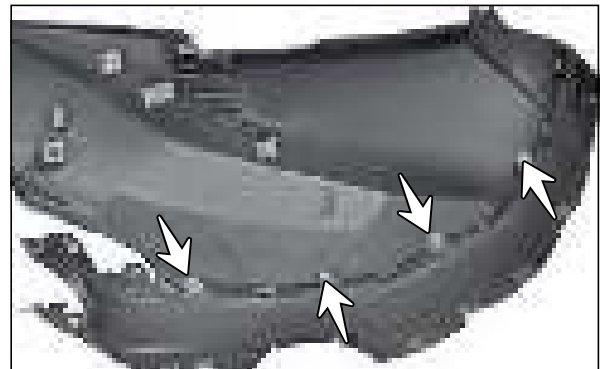

Fig. 2.21
- Remove the CRR flanged pan head tap screw (ST4.2x13 - 4 Nos.) from the mounting of cover fuel tank outer L. (Fig. 2.21)